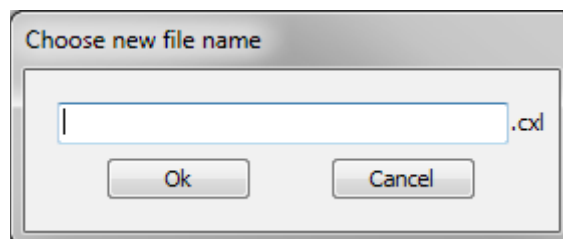

Fig 25: Naming Calibration File
- **New** creates new calibration file. The window (Fig 25) for naming the newly created file is opened first. Then the newly created calibration file is added in the *Available Calibrations* list (Fig 23-1) and is prepared for adjustment in editing mode. *New* button is not available in editing mode.